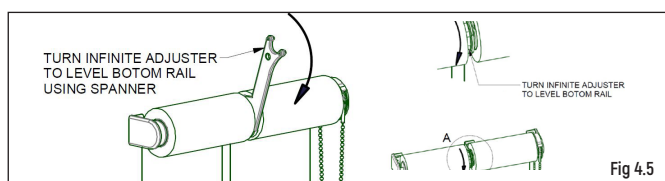

Fig 4.5
5. To level the blinds: Use the Infinite adjuster spanner to rotate the adjustment nut on the female drive. Adjust the level on the slave blind until the bottom bar becomes level with the master blind. The levelling can be performed in both an UP or DOWN direction (**Fig 4.5**).